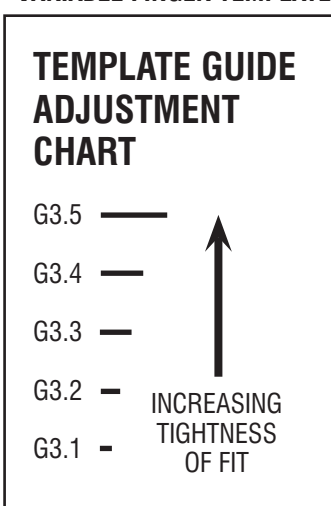

Fig. I20
- \* **IF TOO LOOSE:** Try another template guide that is higher up the chart (Fig. I20). For example, if you used G3.2, you would want to use G3.3, G3.4 or G3.5.
- \* **IF TOO TIGHT:** Try another template guide that is lower down the chart (Fig. I20). For example, if you used G3.3, you would want to use G3.2 or G3.1.